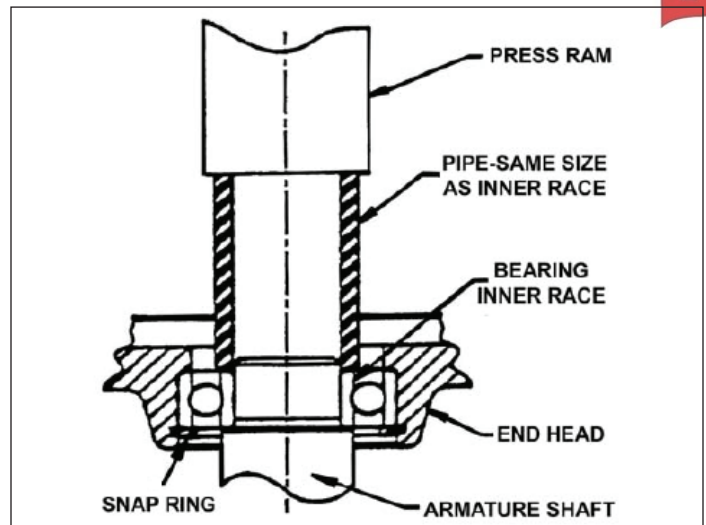
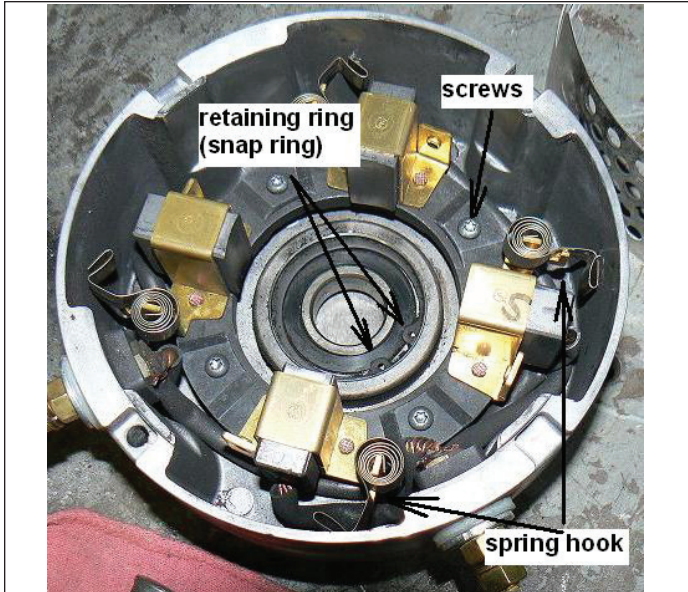
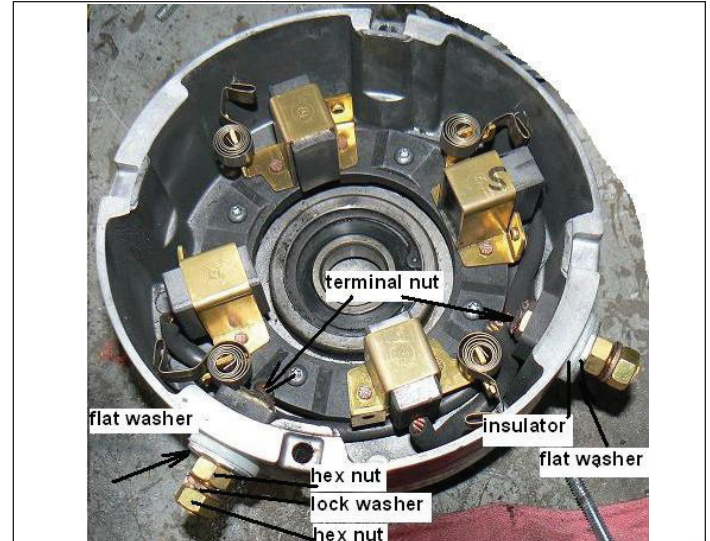

Figure 10-16. Press Bearing and End Cover onto Assembly
Figure 10-17. Spring Hooks for Brush Springs
Figure 10-18. Brushes and Terminal Attaching Parts
1. Always use a new bearing when reassembling a motor. Press bearing into motor head. Press only against the outer race. See Figure 10-16. Install snap ring to retain bearing. Figure 10-17.
3. Position brush holder into motor head as shown in Figure 10-18. Make sure that the terminals for the brushes are loose and free.
4. Install insulators and brush leads into motor head. See Figure 10-18. Brush motor terminals, A1 and A2, should be torqued to 140 in. lbs. (15.8 Nm). See Figure 10-16.
6. Press motor head and bearing onto armature, pressing only against inner race of the bearing. See Figure 10-16.